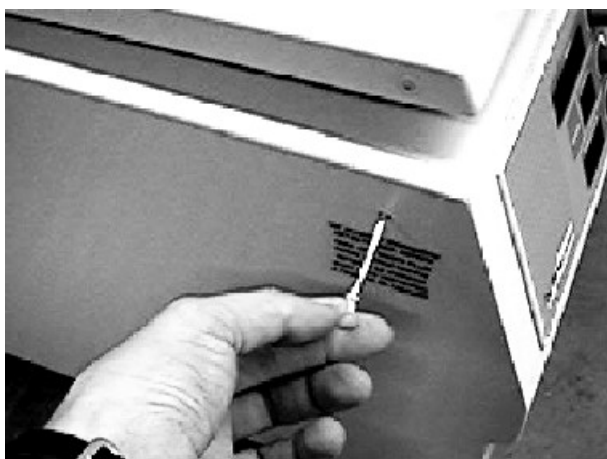

Figure 18
- Pull the plastic plug out of the housing and pull the cord to open the lid of the centrifuge (see Figure 18).
The error message is shown in the "SPEED" display through particular figures (see Figure 18).